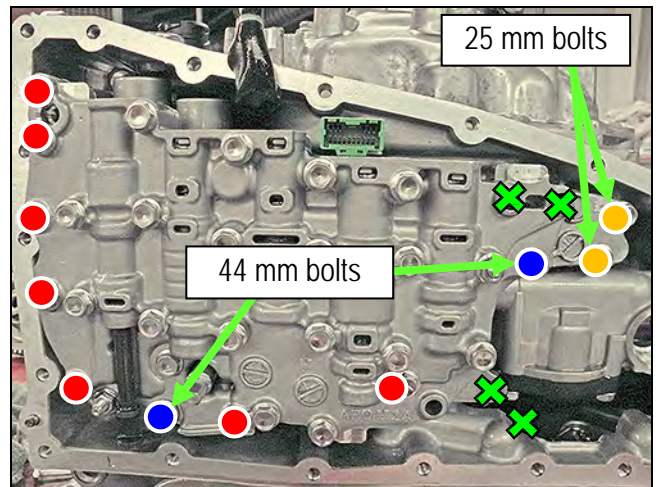
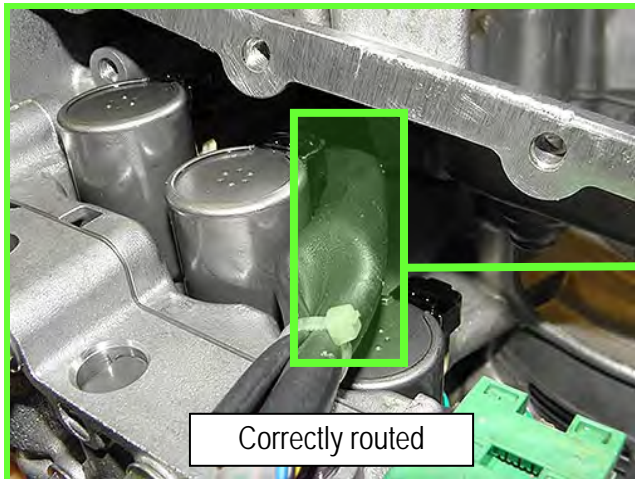

Figure 27
Figure 28
3. Install the Control Valve with eleven (11) mounting bolts (Figure 27).
**IMPORTANT:** Leave Four (4)  bolt holes blank at this step.
**CAUTION:** Make sure the wiring harness does not get pinched (see Figures 28 and 29 for correct routing).